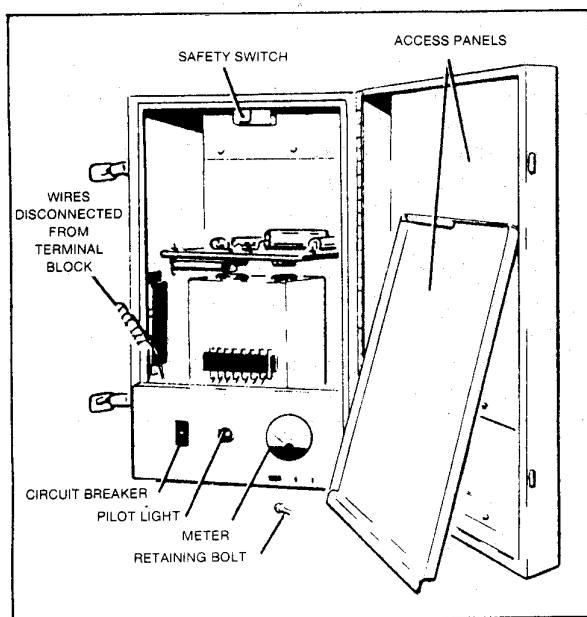

Fig. 7 Power Pack
2. Turn circuit breaker on power pack "ON". The power pack meter should register and the pilot light should glow. (See Figure 7)
- A. If power pack circuit breaker (See Figure 7) is "OFF" reset breaker. If breaker immediately trips "OFF" after resetting, refer to 3 below, Circuit Breaker Tripping. If breaker remains "ON" after resetting, the problem was probably caused by a temporary short in the ionizing-collecting cells that cleared itself.
When the circuit breaker (See Figure 7) trips immediately after reset, it is an indication of a short circuit